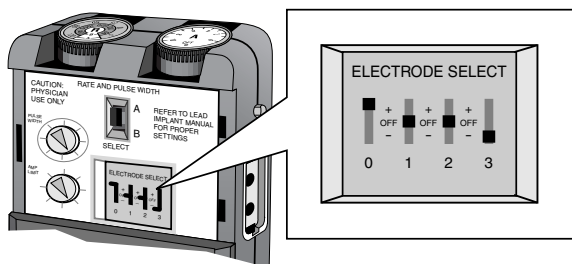

Figure 11. Set Electrode Select switches to reverse polarity.
- b. Set the ELECTRODE SELECT switch polarities as shown (Figure 11).